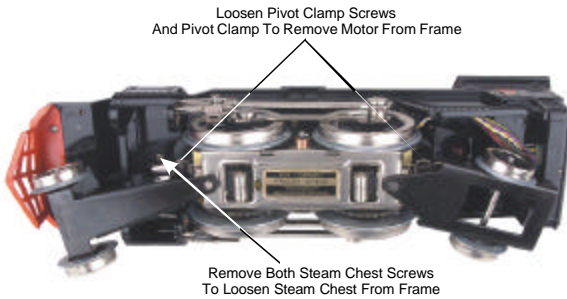

Figure 7: Removing the drive train from the body.
1. To access the drive train, remove the cab from the chassis by loosening the (2) screws located on either end of the motor chassis as seen in Figure 7. Once loosened, remove the (2) steam chest screws located under the leading truck and gently lift the drive train out of the boiler.